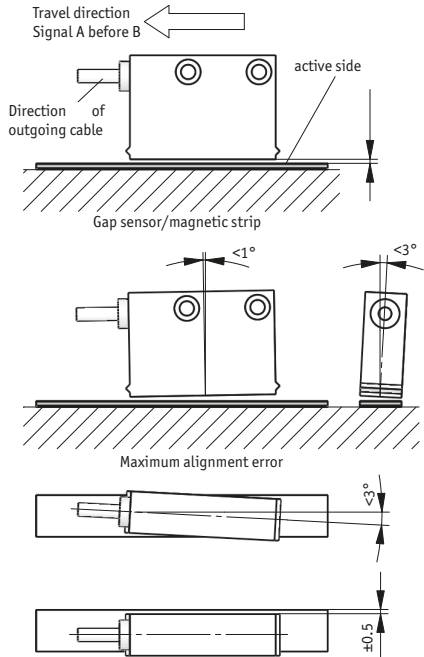

Fig. 6: Definition of the counting direction with magnetic strip and assemblage sensor/magnetic ring, gap measure, tolerances
- **Observe the correct alignment with regard to the counting direction** (fig. 6). This does not apply if the counting direction can be reversed in the electrical interpretation (e. g. with SIKO's magnetic-strip displays).
- When mounting the magnetic sensor, ensure that the gap between strip & sensor and the max. admissible deviation are maintained over the total measuring length (see fig. 6)!